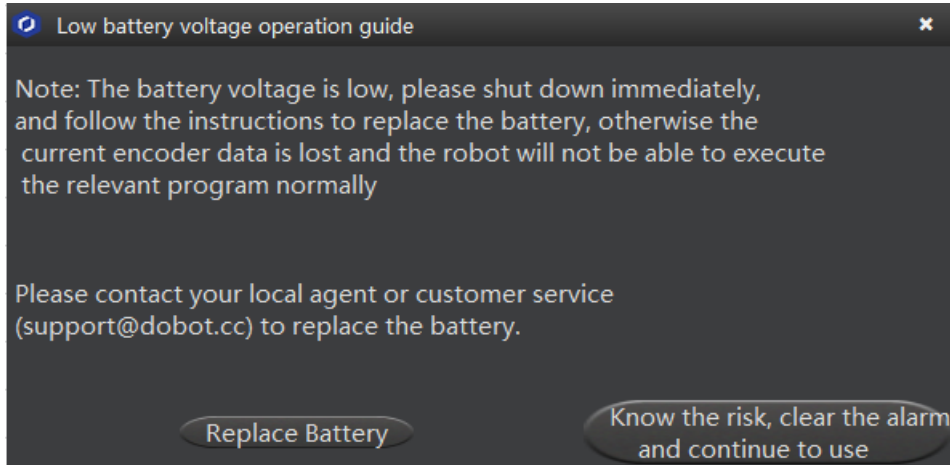

Figure 7.3 Low battery voltage operation guide (1)
- Step 1** The page shown in Figure 7.3 is displayed when the low battery voltage alarm is triggered.